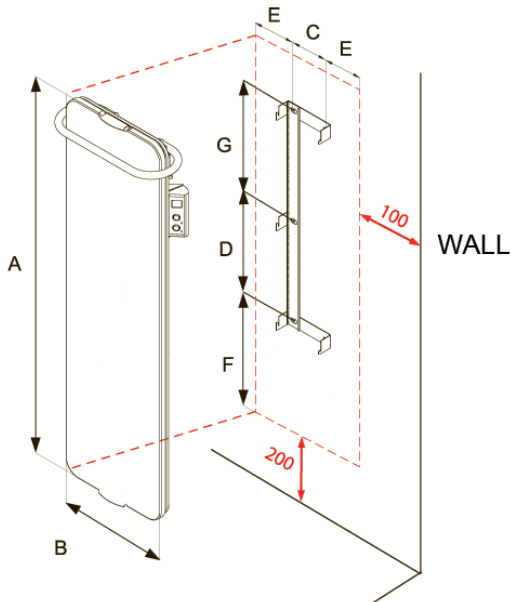

Fig.1
1. Make sure the minimum clearances are adhered to (**Fig.1** and **Fig.2**)